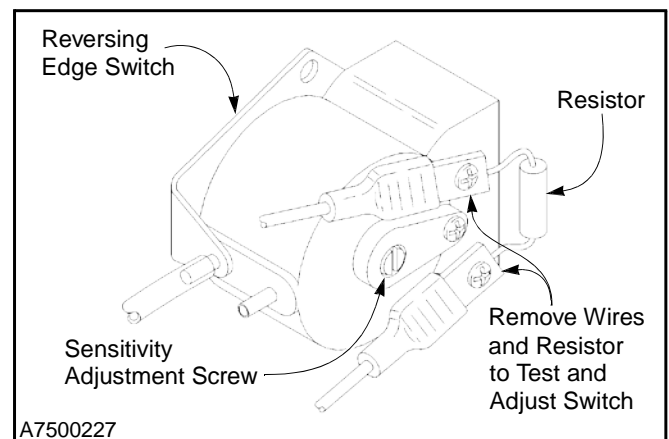

Figure 25
1. The reversing edge switch is a normally open contact. The PVC hose is on the lower air input post. To adjust the switch, first remove the wires and resistor from the contact terminals and attach an ohmmeter across the two terminals. (See Figure 25.)
2. Turn the sensitivity adjustment screw, located on the face of the switch, clockwise or counterclockwise until continuity is achieved. Then adjust the screw a three-quarter turn counterclockwise. Adjusting the screw counterclockwise decreases sensitivity, clockwise increases sensitivity. (See Figure 25.)